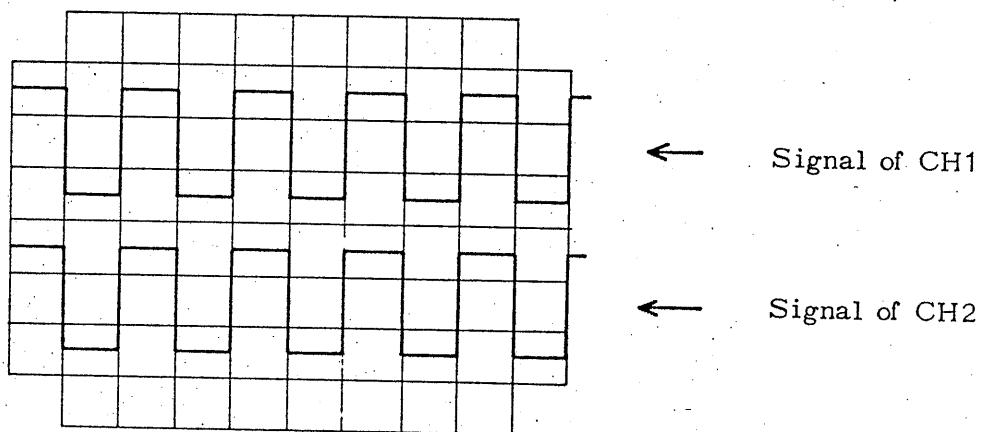

Fig. 6
Now, apply the calibration voltage to CH2 input terminal (21) also through the probe (optional accessory), and set the GND button (23) in the position. Two waveforms are displayed by adjusting POSITION controls (8) and (13) as shown in Fig. 6.